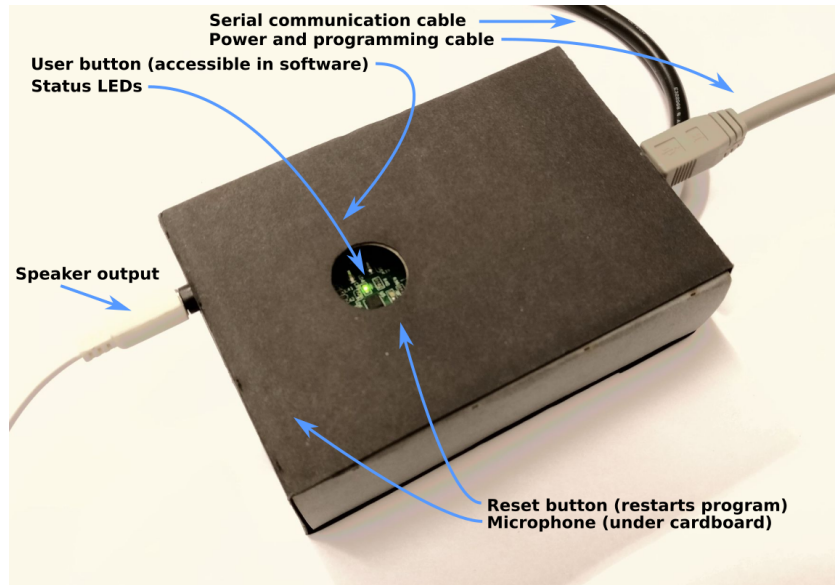

Figure 1: DSP box illustration with input/output, user buttons, and status LED's indicated.
Figure 1 shows the location of all user-accessible input/output on the DSP board. Note that the user and reset buttons are located just outside the circular cutout and are used by lightly pressing on the cardboard case, which is flexible enough to move along with the button.
6. Press the reset button (figure 1). If all is well something like the following text will be displayed in the serial monitor window (you have to have maximized the monitor to see all the output).